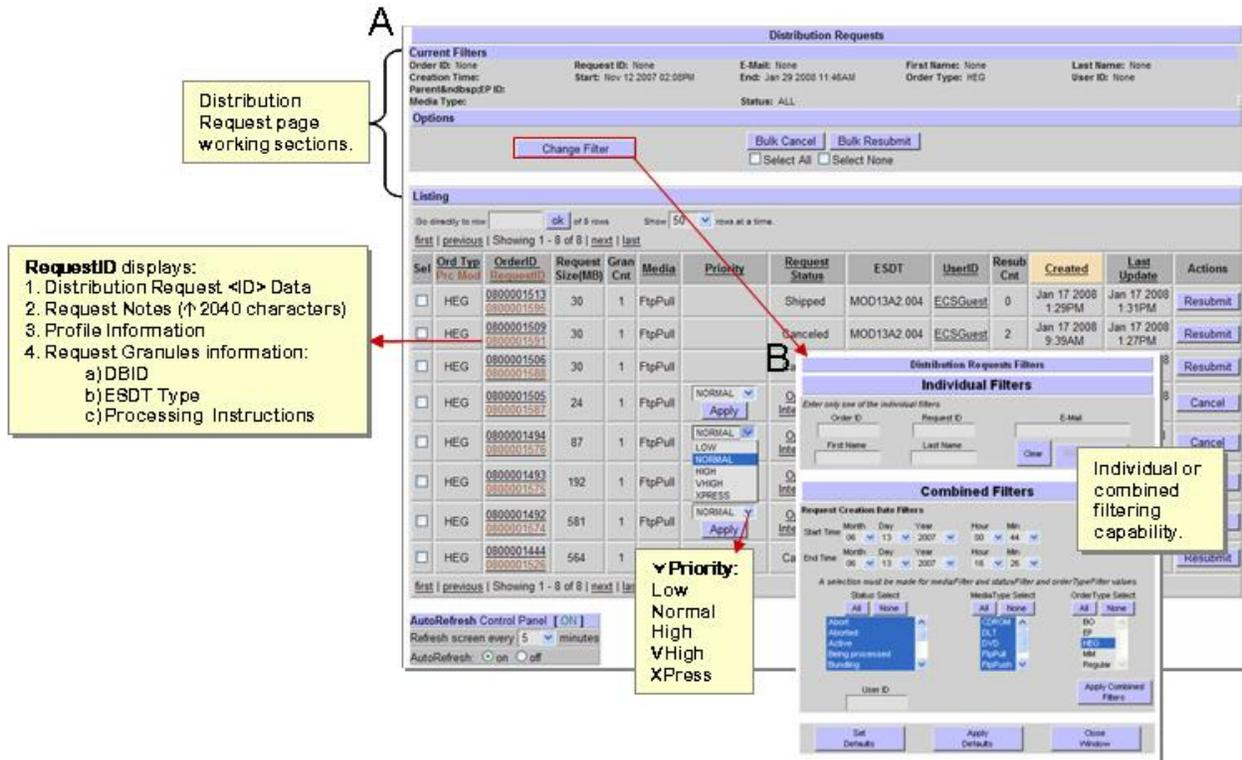

Figure 15.6-20. Distribution Requests Page and Filter Window
- The **Distribution Requests [filter]** page (Figure 15.6-20, Frame A) displays.
- 1 - **Current Filters** – displays data (Figure 15.6-21, Frame 1) by the set of pre-defined criteria specified (Figure 15.6-20, Frame B) by the Operator.
- Click the **Change Filter** button, in the **Options** area (Figure 15.6-20, Frame A).
- 1 - **Individual Filters** – displays limited options (Figure 15.6-20, Frame B) to set a defined criterion specific to a request (Figure 15.6-20, Frame B). Those options are:
- 2 - **Combined Filters** – has several options (Figure 15.6-20, Frame B) to allow operator to combine multiple criteria to define the filter.